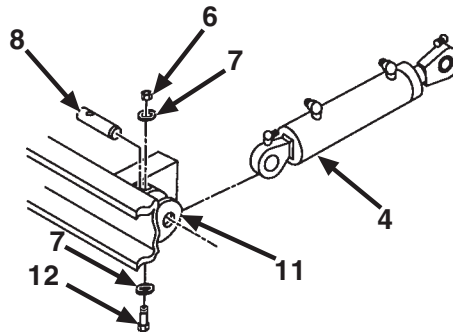

Figure 70. Track Adjusting Cylinder Rod End.
Step 3 applies to Figure 70.
- Remove screw (item 12), washers (item 7), locknut (item 6), and pin (item 8), and fixed end of track adjusting cylinder (item 4) from hull mounting bracket (item 11).